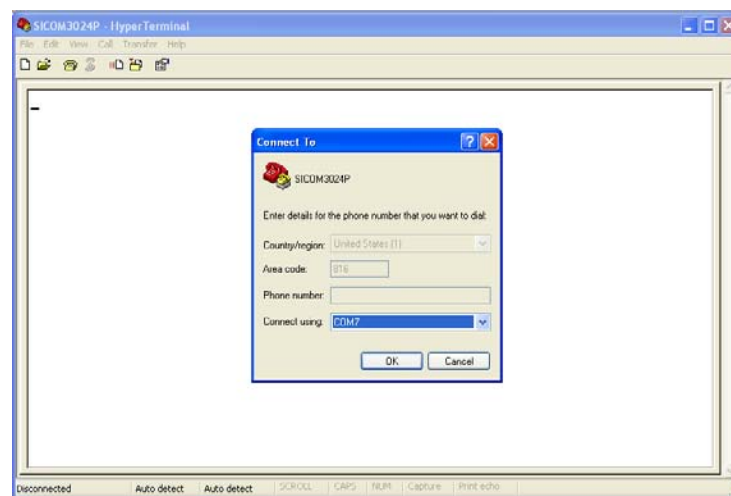

Figure 22: Connect correct COM port
Step 4: Use COM port to connect as shown in Figure 22. It is able to learn the currently used COM port in "Device Manager".